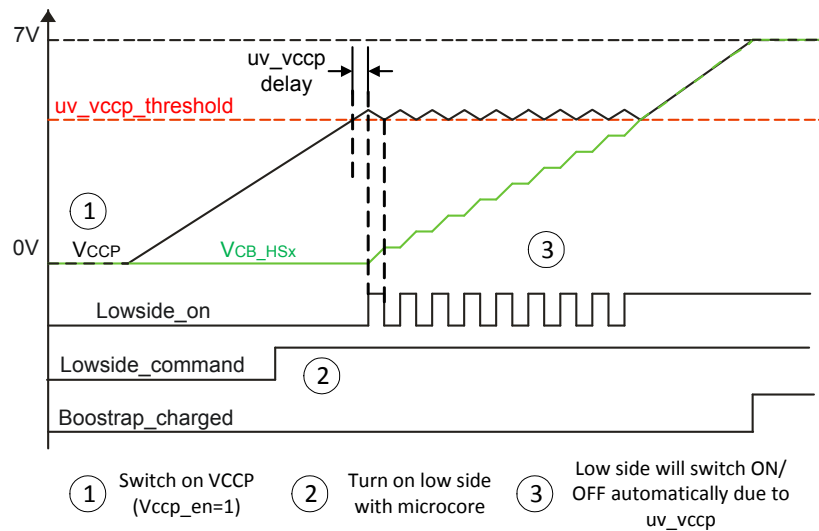

Figure 23. Power up: V_{CCP} and bootstrap capacitors - before V_{CCP} fully charged
2. Switch on the LS MOSFET(s) as soon as possible after the V_{CCP} voltage is above the V_{CCP_UV} threshold. This causes the V_{CCP} voltage to cross the V_{CCP_UV} threshold again and thereby the LS MOSFET(s) and the bootstrap diode are switched off again. The V_{CCP} voltage recovers from undervoltage and after the delay min. of 16 μ s, the LS MOSFET(s) and the bootstrap diode are switch on again. This pulsed charging of the bootstrap capacitors with a frequency of below 50 kHz continues until the voltage of the bootstrap capacitors is above the V_{CCP_UV} threshold. Figure 23 shows this strategy.